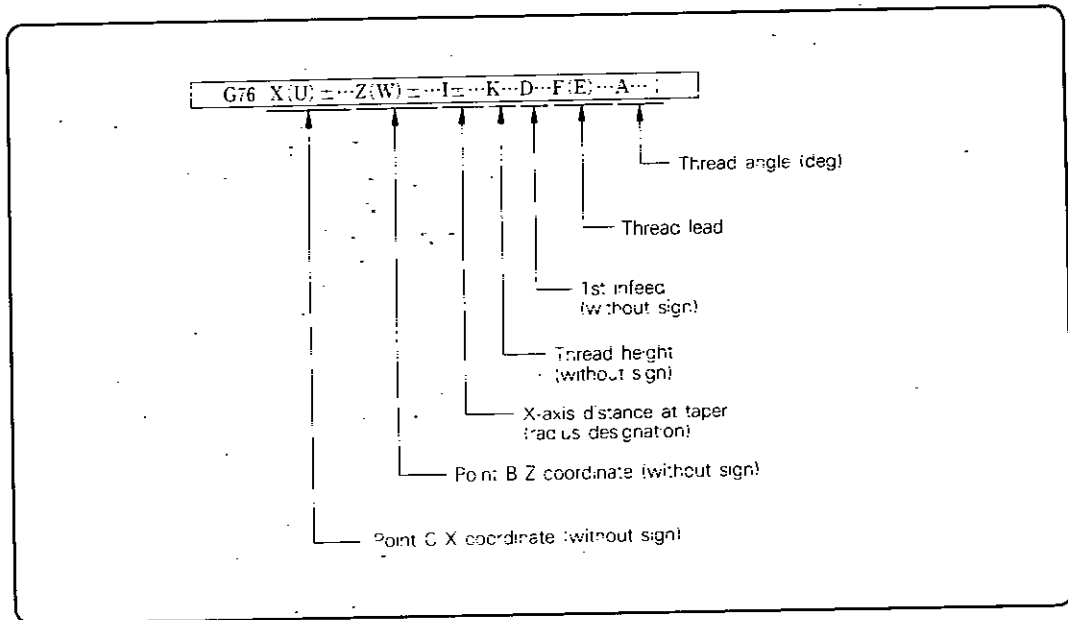
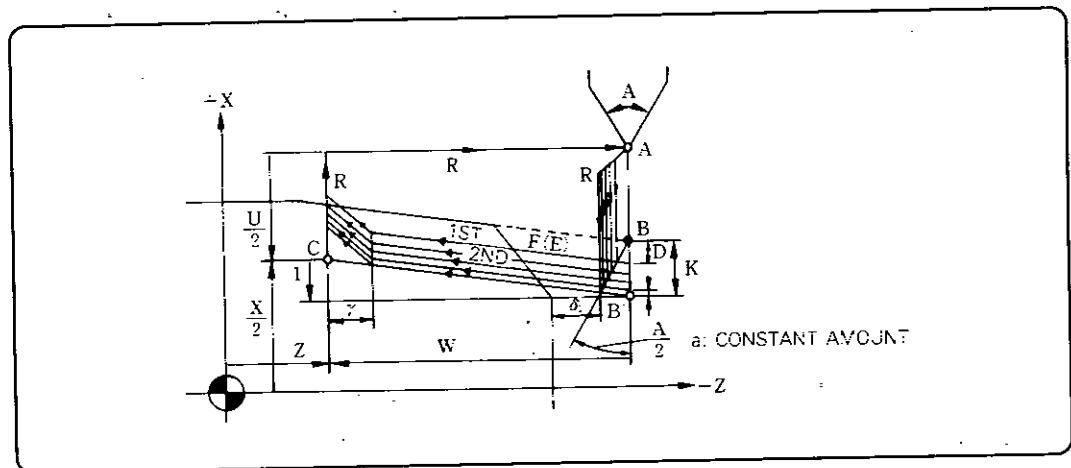

Fig. 2.13.41 Cycle Command
Fig. 2.13.42 Cycle Execution
(1) The command of Fig. 2.13.41 executes the cycle of Fig. 2.13.42.